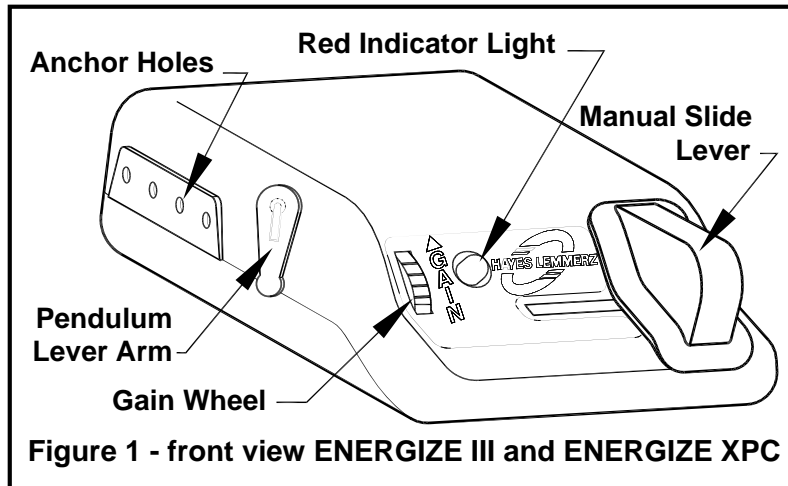

Figure 1 - front view ENERGIZE III and ENERGIZE XPC
3. The controller **red indicator light** (Figure 1) will illuminate from dim to bright during the stop and will return to dim when deceleration is no longer detected.
- The gain wheel (Figure 1) is located on the front left side of the controller.
- Pull the pendulum leveling arm (Figure 1) toward the red indicator light. The red indicator light should illuminate bright red.
- The “**Manual Slide Lever**” (Figure 1) is located on the front right side of the controller.
- A. Disconnect the tow vehicle/trailer electrical connector. Move the manual slide lever (Figure 1) to the left. The red indicator light must become increasingly brighter and the tow vehicle stop lamps must illuminate.
To adjust the gain wheel (Figure 1) with the trailer connected.